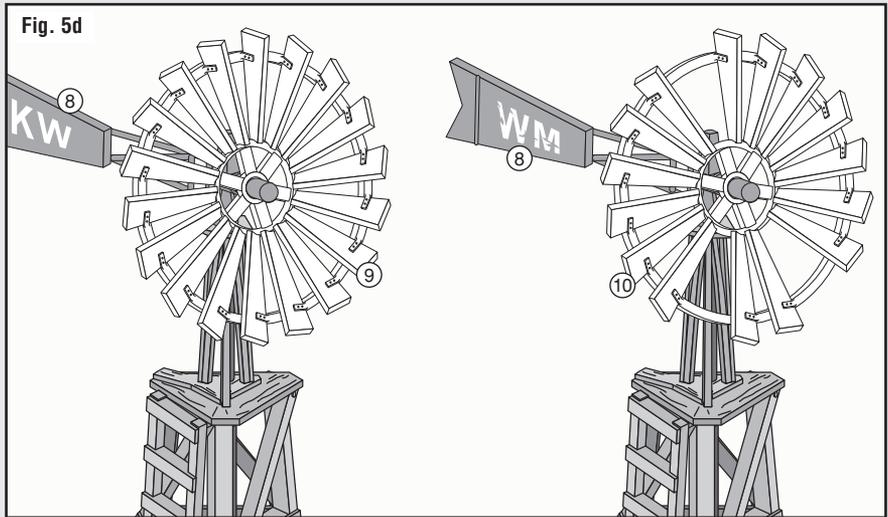

Fig. 5d
- Slide Wind Wheel (9) onto Weather Vane & Gearbox (8) and Damaged Wind Wheel (10) onto second Weather Vane & Gearbox (8) (Fig. 5d).